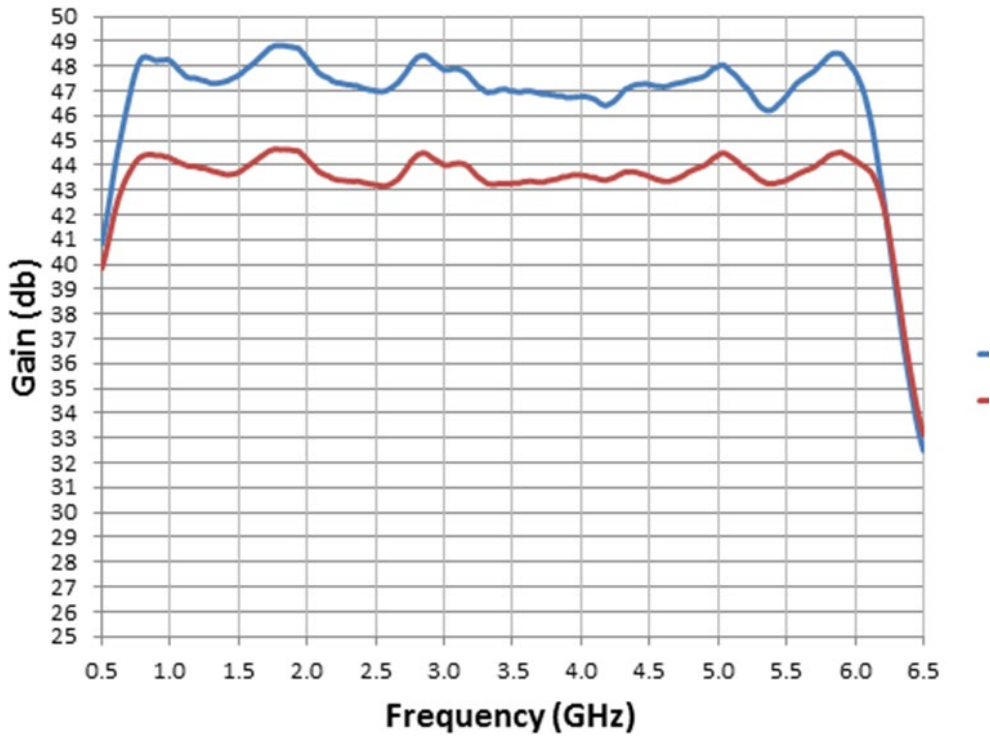

Figure 4-1. Typical Response at 0 dBm Input and -20dBm Input
1. The Model 15S1G6’s typical gain response at 0 dBm input and -20 dBm input is shown in Figure 4-1. The actual gain may vary considerably from that shown in Figure 4-1 but should be ≥ 41.8 at 0dBm input and $\geq 0V$ at -20 dBm input. *NOTE: If the overall gain is low, the amplifier chain can be separated at the input of the A3 Quad Amplifier.*